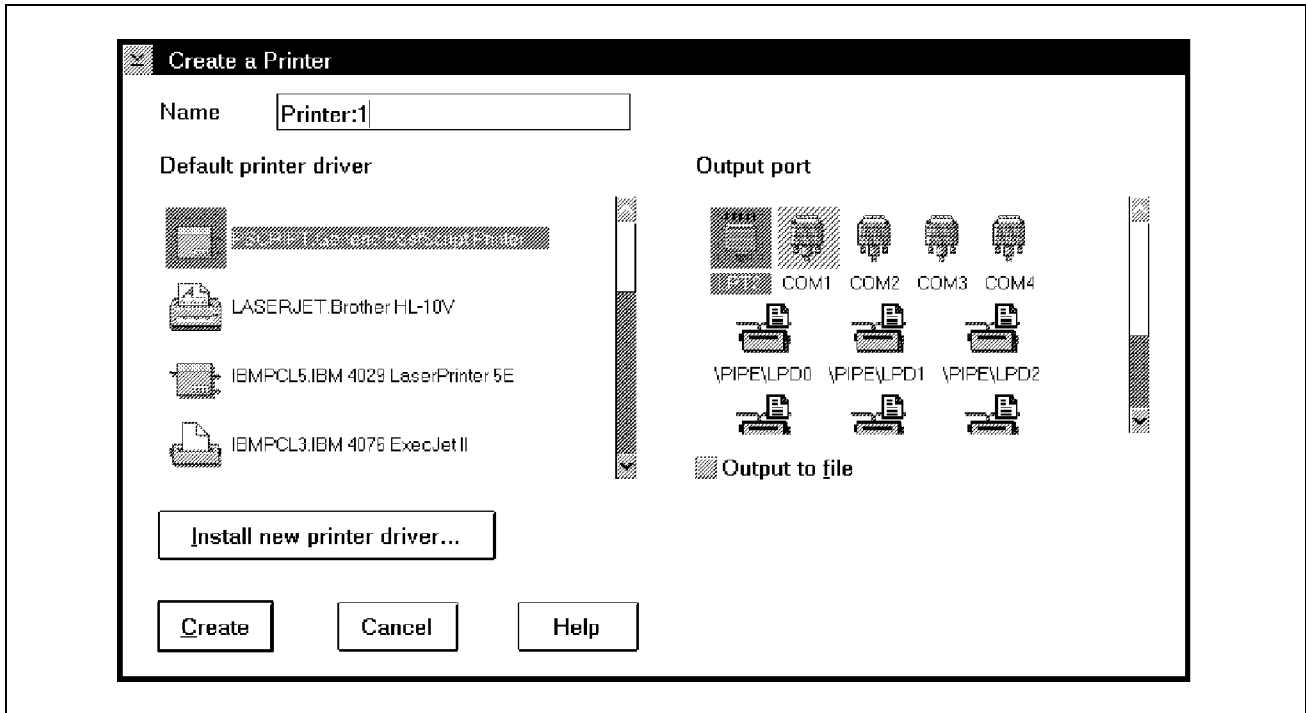

Figure 27. The Create a Printer Dialog
4. The **Create a Printer** dialog appears on the screen as seen in Figure 27 on page 90.
7. Select the port to which the printer is connected in the screenshot in Figure 27, you can also select network printer ports, which refer to a printer on a server.
- You will see the Create a Printer dialog box as shown in Figure 27 on page 90.